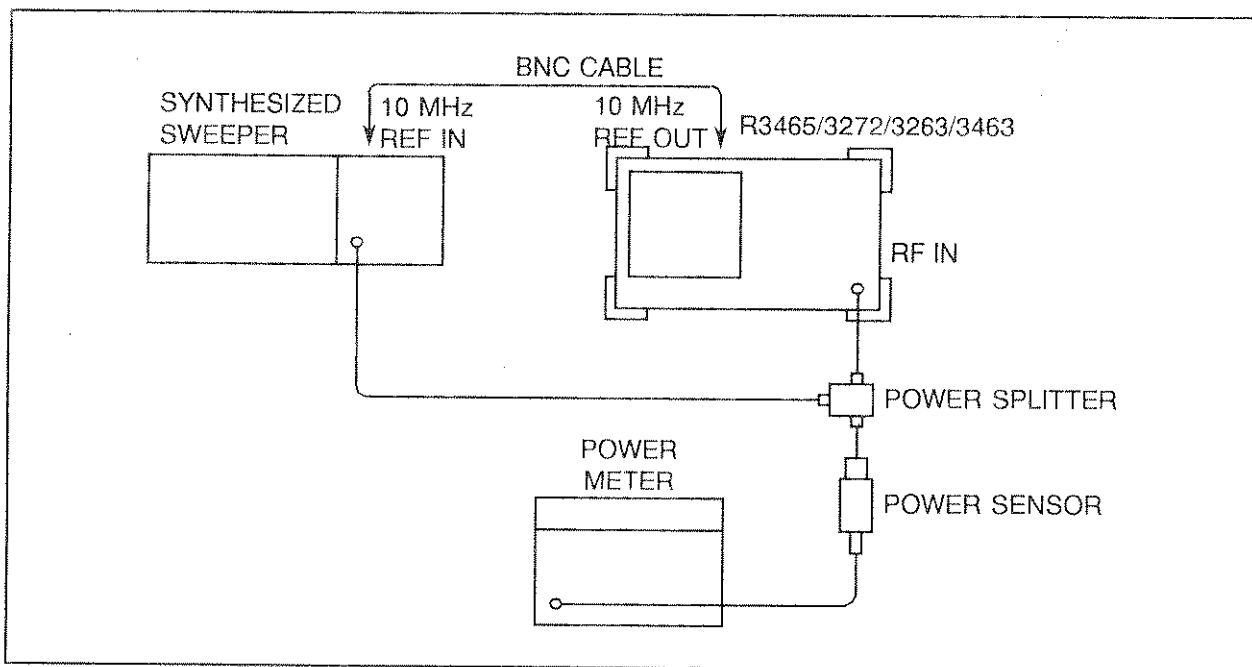

Figure 1-12 Image, Multiple and Out-of-Band Response Test Setup
- (1) Connect the equipment as shown in Figure 1-12, but do not connect the power sensor.
- (2) Press the INSTR PRESET key on the SG3 and set the controls as follows: